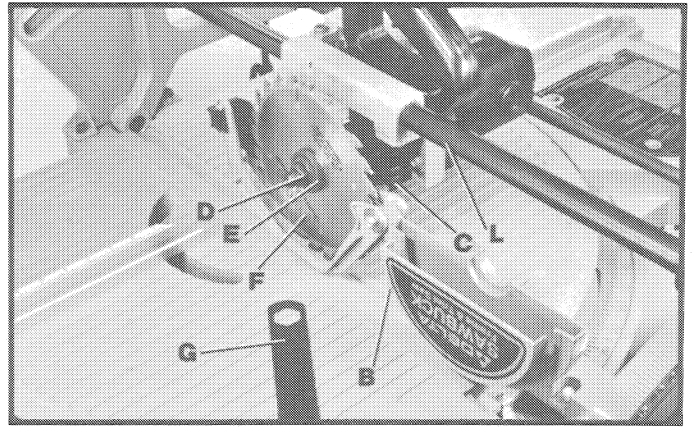
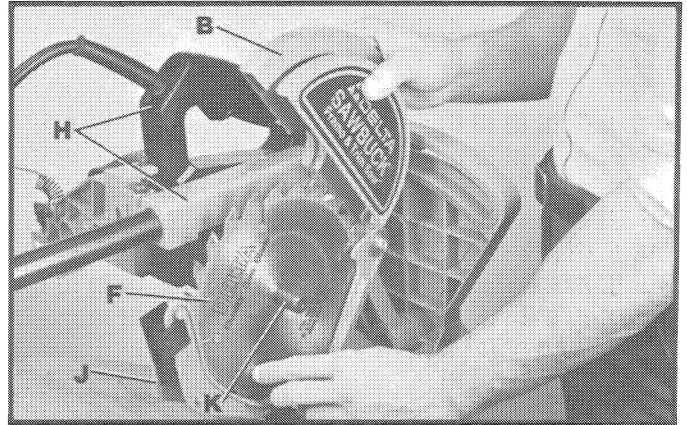

Fig. 43
Fig. 44
3. Raise blade guard (B) Fig. 43, and place it on the table in front of saw blade as shown. Push in arbor lock (C) Fig. 43, and remove arbor nut (D) and blade flange (E), using wrench (G). Turn wrench clockwise to remove arbor nut.
4. Pull cuttinghead assembly (H) Fig. 44, with blade guard (B) forward and remove blade (F).
5. Holding blade guard (B) Fig. 44, up, with leaf guards (J) resting on the table, place the new saw blade (F) between leaf guards (J) and onto arbor (K). **IMPORTANT:** Blade teeth must be pointing down toward the front of the saw table as shown in Fig. 44.
6. Move cuttinghead assembly (H) Fig. 44, with leaf guards (J) and blade guard (B) to center of track arm (L) as shown in Fig. 43. Assemble outside blade flange (E) and arbor nut (D) to arbor shaft. Push in arbor lock (C) Fig. 43, and tighten arbor nut (D) with wrench (G). Turn wrench counterclockwise to tighten arbor nut.
7. Reassemble blade guard (B) Fig. 43, by following STEPS 6, 7, 8, and 9 in Section "ASSEMBLING SAW BLADE" in instruction manual.